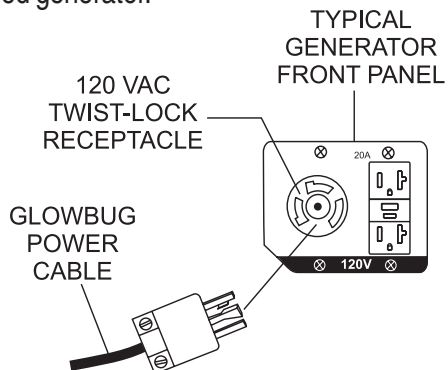

Figure 15. 120 VAC Receptacle
2. The GloBug has a power requirement of 120 VAC, 60 Hz @ 9.5 amps. Connect the GloBug's AC power cord to the 120 VAC twist-lock receptacle (Figure 15) on the the supplied generator.